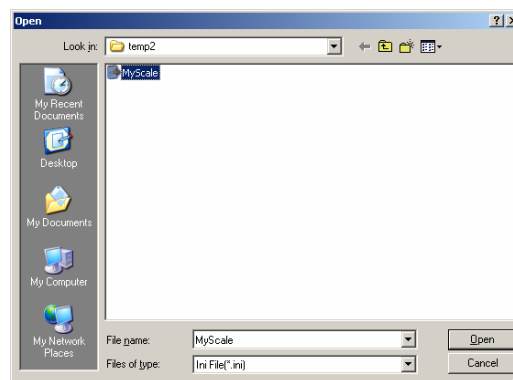

Figure B-31: Windows Open Screen
3. Click on the Upload button to start uploading the configuration to the IND310drive. A Windows Open screen will display (Figure B-31) for selecting which INI file to upload.